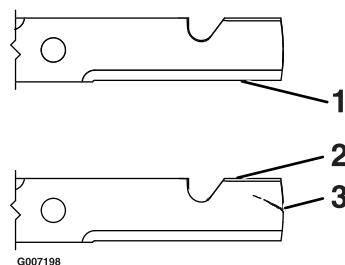

Figure 44
1. Inspect the cutting edges (Figure 44). If the edges are not sharp or have nicks, remove and sharpen the blades; refer to the Sharpening the Blades section.
2. Inspect the blades, especially the curved area. If you notice any damage, wear, or a slot forming in this area (item 3 in Figure 44), immediately install a new blade.